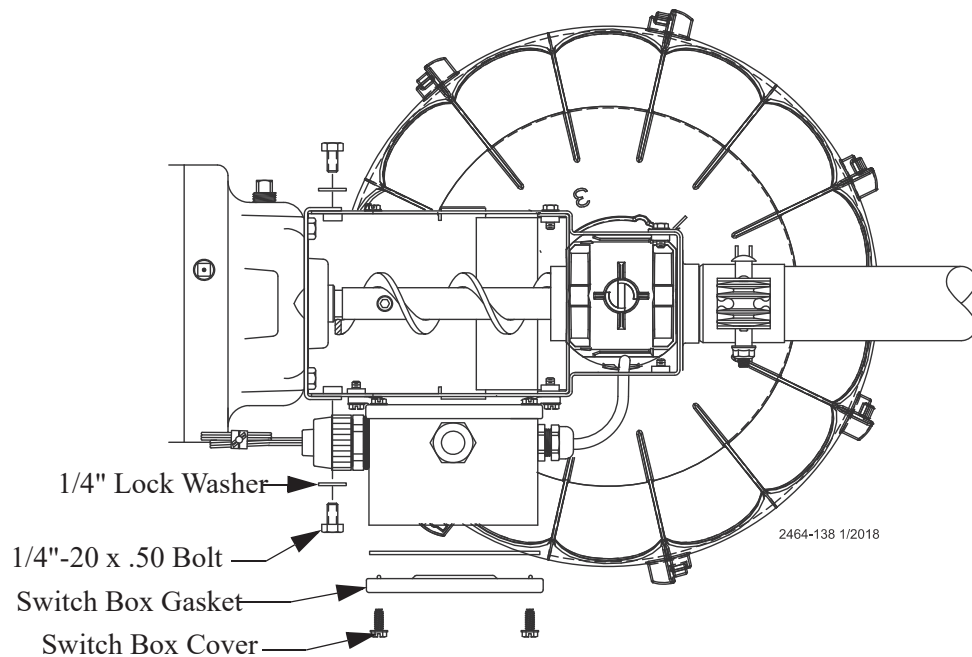

Figure 42. Attaching the Anchor Plate and Gearhead Assembly to the Control Unit Body
7. Attach the Anchor Plate and Gearhead Assembly to the Control Unit Body using the included 1/4" Lock Washers and 1/4-20 x 1/2" Bolts. (See **Figure 42.**)